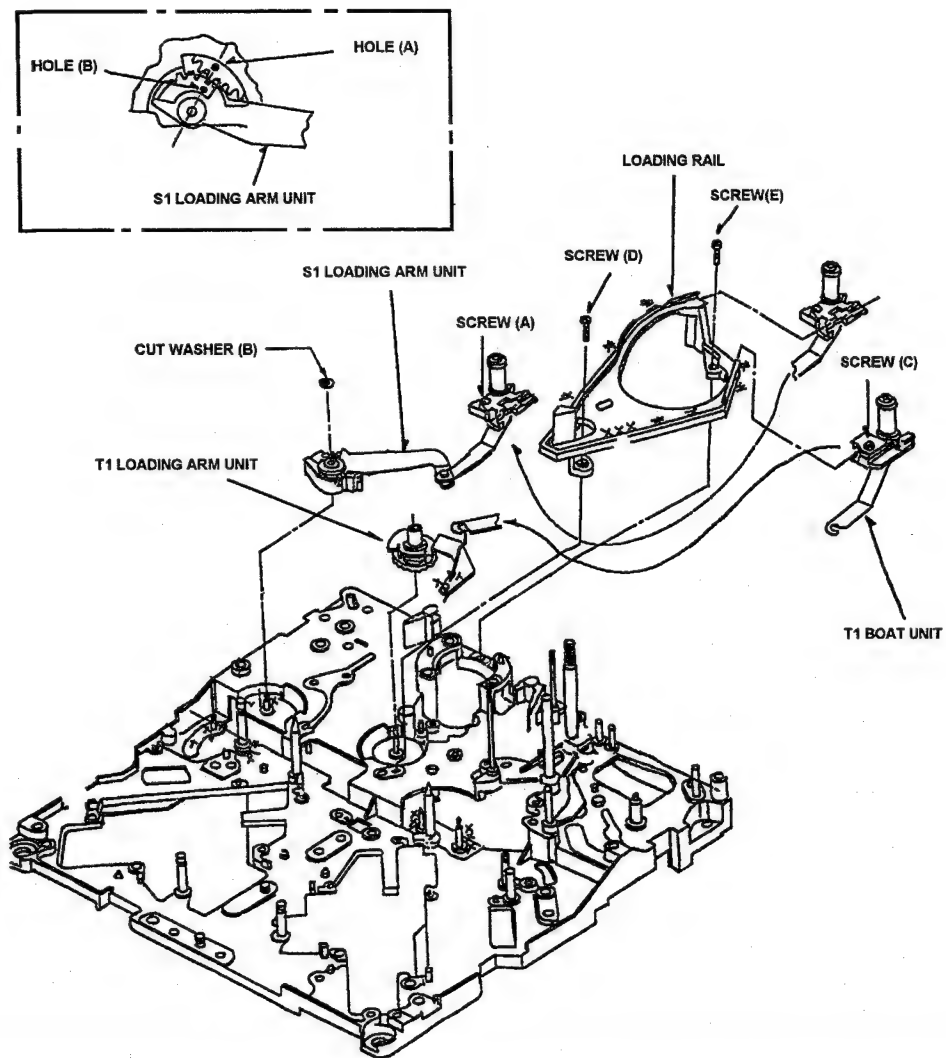

Fig. M16
4. Turn the Emergency Gear until middle loading position and unscrew the screw (D), (E) as shown in Figure M16.
5. Remove the S5 Stopper Base and the Tension Arm Unit. (Refer to item 14 & 15).
6. Unscrew the screw (A) and remove S1 Post from the Loading Rail as shown in Figure M16.
7. Remove the Cut Washer (B) and remove the S1 Loading Arm Unit as shown in Figure M16.
8. Unscrew the screws (C), and remove the T1 Post from Loading Rail as shown in Figure M16.
9. Remove the T1 Boat Unit from T1 Loading Arm Unit as shown in Figure M16.
1. Adjust S1 Post Loading Arm Unit so that the hole (A) should match hole (B) as shown in Figure M16.